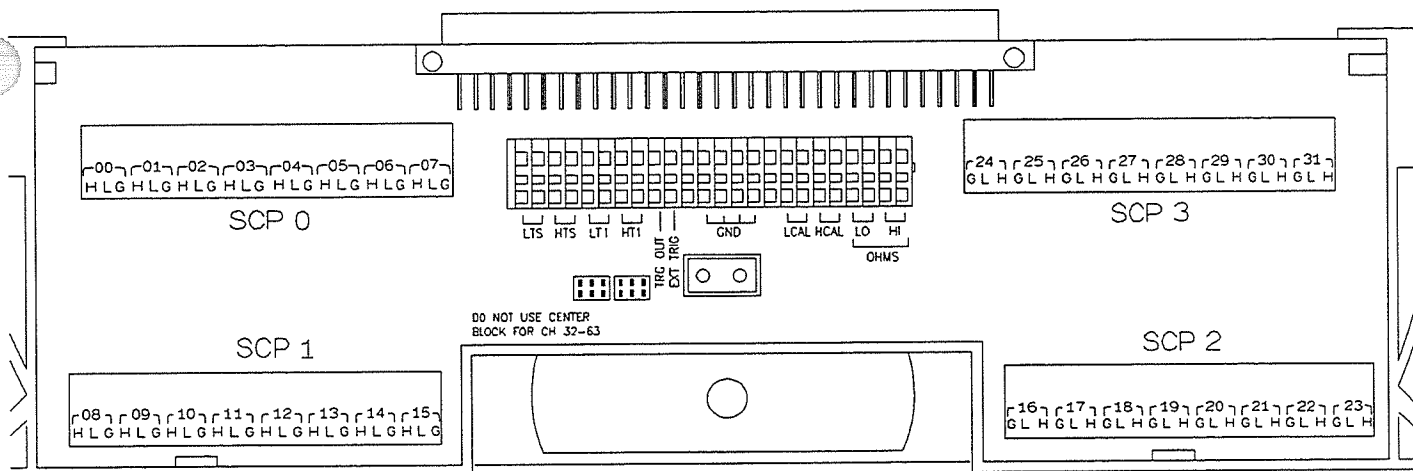

Figure 2 HP E1501 B-size Terminal Module Connections (Ch 00-31)
- For HP E1313 Terminal Modules, use stickers for HP E1501 SCPs. The connections are shown in Figures 2 and 3.